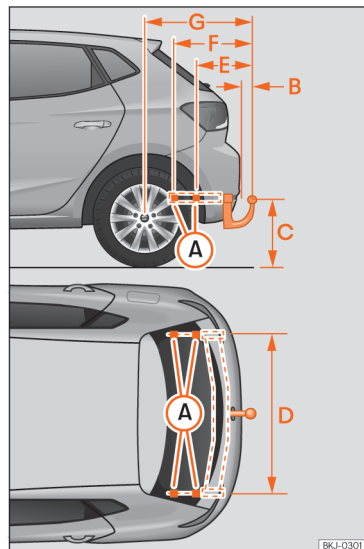

Fig. 180 Limits and attachment points for retrofitting a towing bracket.
The distance between the centre of the ball head and the road »» Fig. 180 (C) must never be less than that indicated. This also applies when the vehicle is fully loaded, including the technically permissible maximum vertical load on the coupling device.
Distance specifications »» Fig. 180: